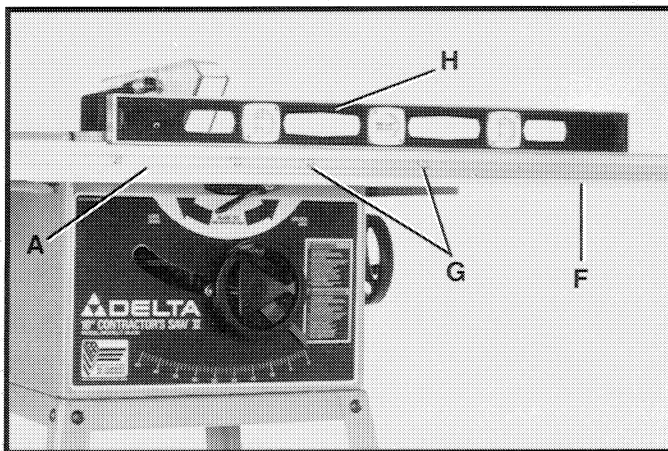

Fig. 35
3. Assemble the long guide rail (F) Fig. 35, to the saw table using the two 3/8-24 x 1-1/2" long hex head cap screws (G), 3/8" I.D. flat washers and 3/8-24 hex nuts supplied. Do not completely tighten mounting hardware at this time.
4. Using a straight edge (H) Fig. 35, make certain the long guide rail (F) is level with and in line with the short guide rail (A) and tighten mounting hardware (G).